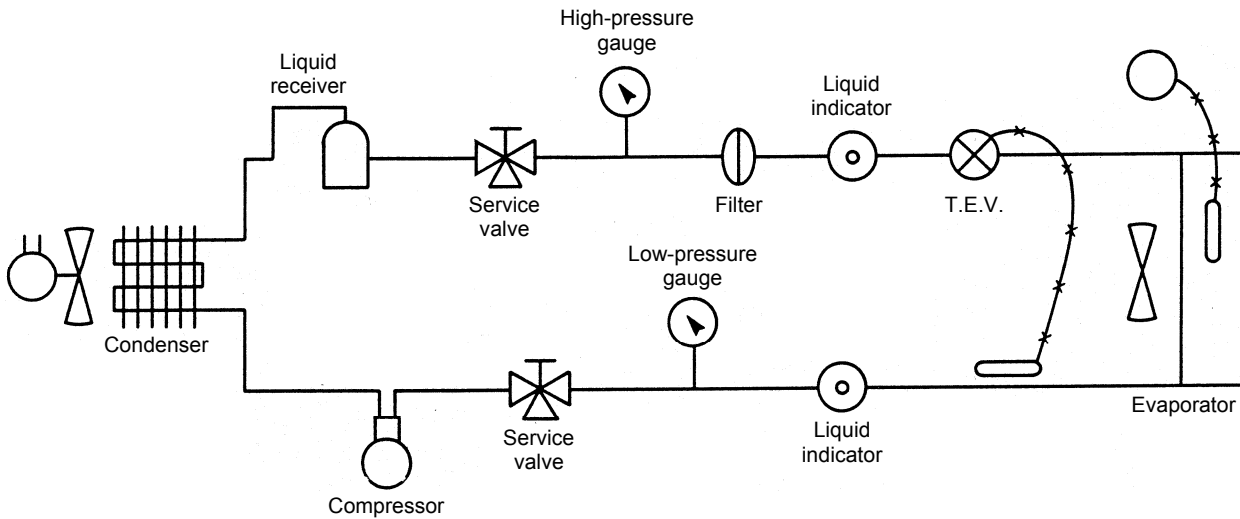

Figure 2-8. Typical refrigeration system using a T.E.V.
1. Identify the different components in the refrigeration schematic of Figure 2-8 and position them so that the circuit can be completed.